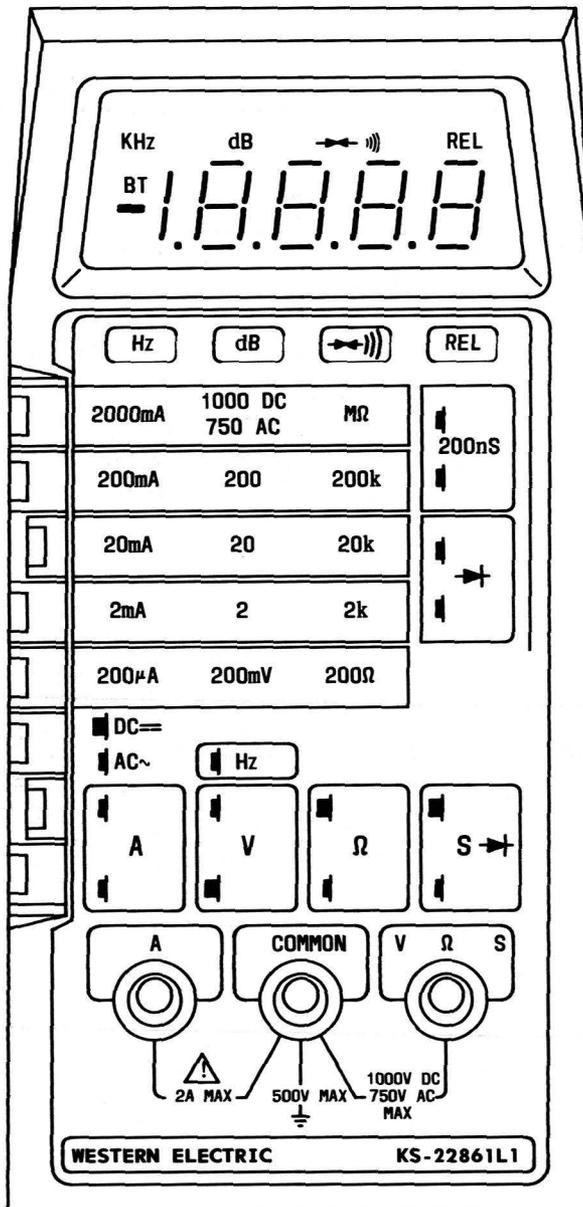

Fig. 3—KS-22861, L1, Digital Multimeter
2.10 The KS-22861, L1, is a bipolar solid state, 4-1/2 digit, handheld, microcomputer-based, liquid crystal display multimeter which operates from a 9-volt battery. The DMM is primarily intended for measurement of voltages on D2 channel banks, A6 channel banks, T2 digital line, and the 140-volt system battery plant. The DMM provides 4-1/2 digit resolution on ac volts, dc volts, ac current, dc current, and ohms. (See Fig. 3.)